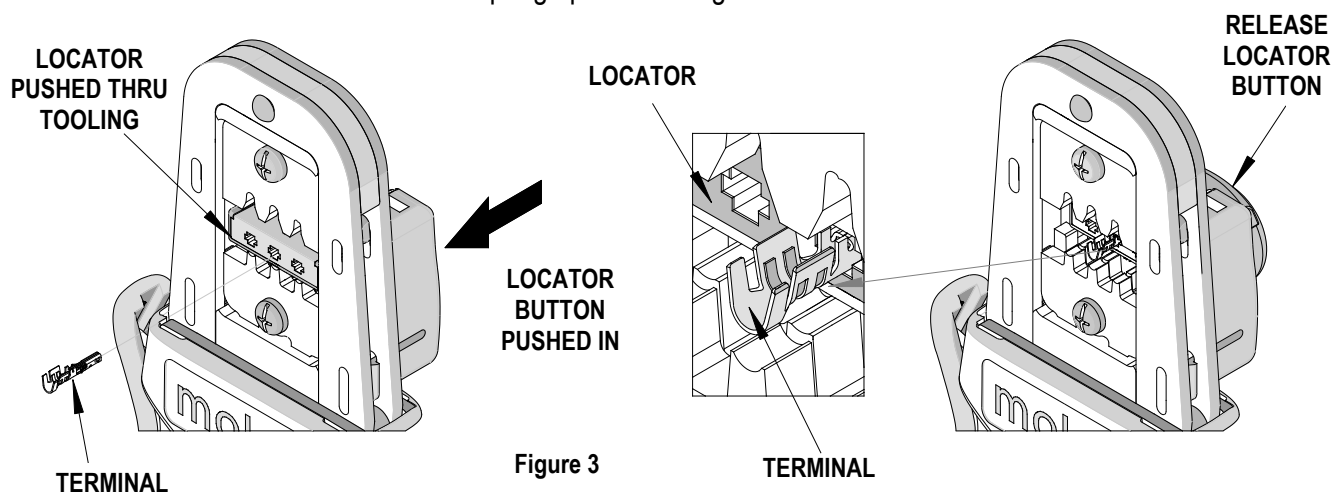

Figure 3
3. While holding the locator button in, load the terminal into the proper nest opening in the locator based on the wire gauge or terminal type markings on the hand tooling. See Figure 3.